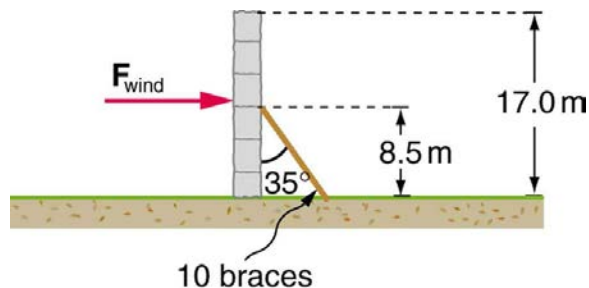

Figure 9.32
- A 17.0-m-high and 11.0-m-long wall under construction and its bracing are shown in **Figure 9.32**. The wall is in stable equilibrium without the bracing but can pivot at its base. Calculate the force exerted by each of the 10 braces if a strong wind exerts a horizontal force of 650 N on each square meter of the wall. Assume that the net force from the wind acts at a height halfway up the wall and that all braces exert equal forces parallel to their lengths. Neglect the thickness of the wall.